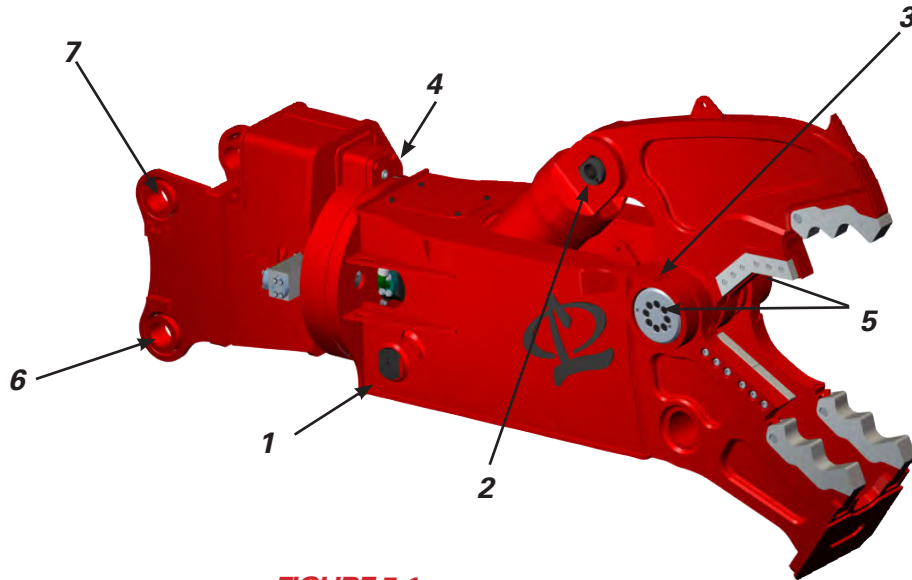

FIGURE 5-1
1. Refer to Figure 5-1. Grease all points every 8 hours of attachment operation. Use premium grease No 2EP or equivalent.